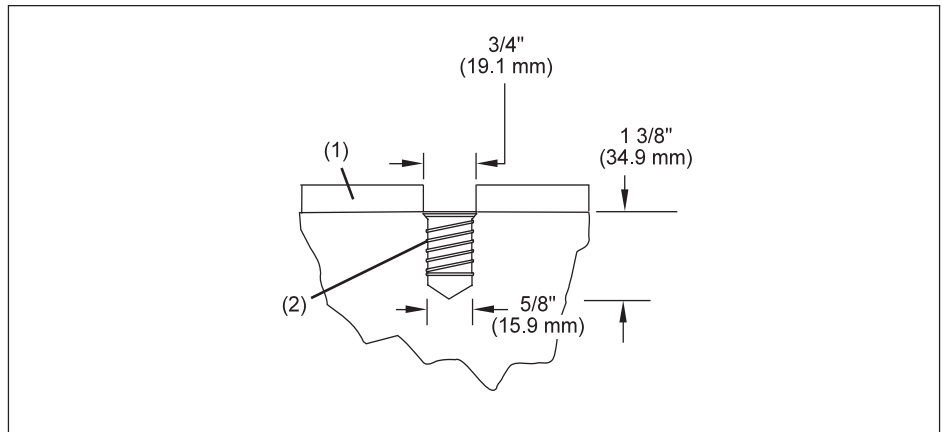

Figure 10. Laminate Lane Hardware
1. At the locations marked on the floor for the foot attaching hardware drill 3/4" diameter holes through the laminate surface of the lane. Refer to *Figure 10*.